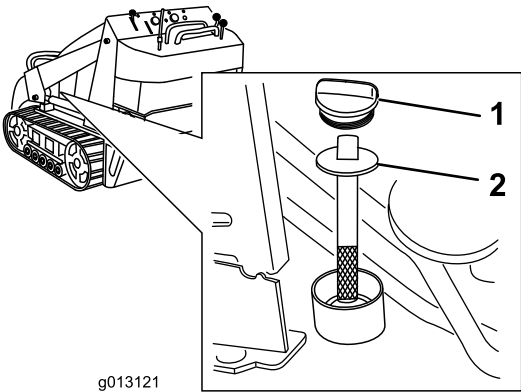

Figure 66
5. Clean the area around the filler neck of the hydraulic tank (Figure 66).
6. Remove the filler-neck cap and check the fluid level on the dipstick (Figure 66).